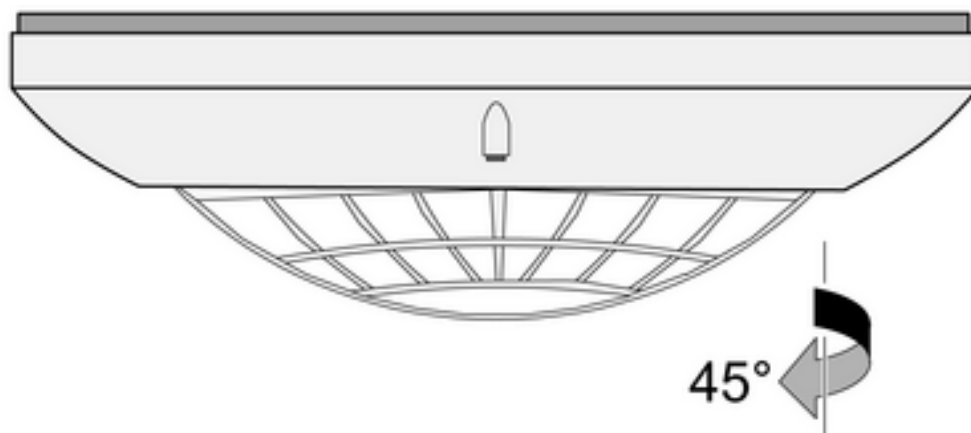

Figure 7
- Turn the presence detector clockwise by approx. 45° to detach it from the base plate (Figure 7).